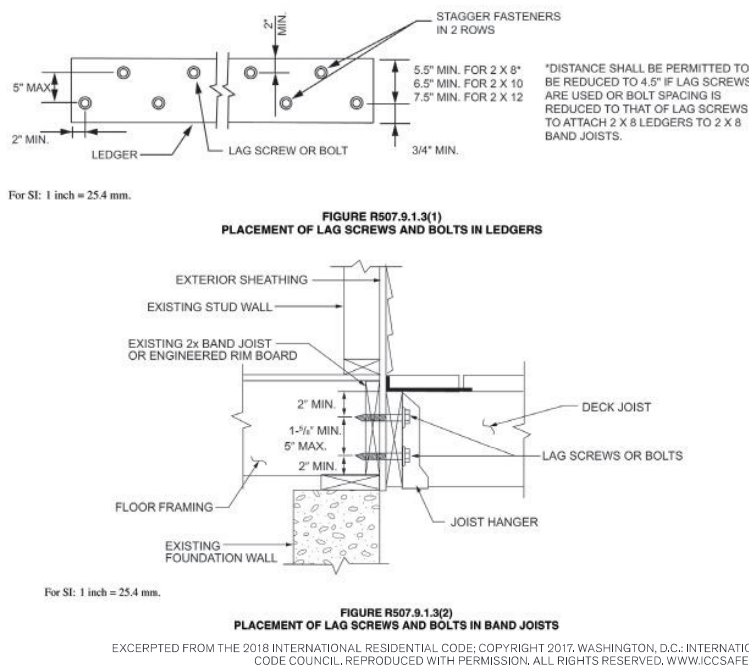

Figure 4. The IRC clearly spells out where the 1/2-inch-diameter lags or bolts should be located in both the ledger (top) and the rim joist (bottom).
To make sure the connection between the deck and house framing is structurally sound, the IRC spells out the orientation of the top and bottom fastener rows in the ledger and the house rim joist (Figure 4). Each one is simple on its own to understand, but when you combine the two and try to set the position of the ledger and maintain the minimum and maximum spacing of the two rows of fasteners, it can feel like a game of three-dimensional chess.
Figure 4. The white rust on this ledger bolt indicates that it is still safe but is nearing the end of its service life (A). The extensive red rust on these bolts indicates that the hardware should be replaced immediately (B). Water intrusion is causing wood rot and the red rust on this lag bolt; the connection is likely weakened (C).
One of the most important things I look for when inspecting a deck or balcony is white or red rust. White rust appears on metal hardware as white stains, indicating that the protective zinc coating (galvanization) is deteriorating. While white rust indicates that hardware is nearing the end of its service life and should be monitored regularly, significant red rust indicates that the component has reached the end of its service life and should be replaced (**Figure 4**).